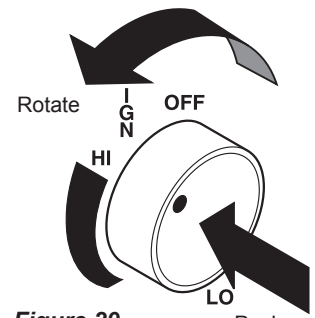

Figure 29 -
10. Push in control knob and turn counterclockwise to the HIGH setting. At this location the control knob will pop out when positioned correctly. The knob can now be positioned at any position between HIGH and LOW. Figures 29 and 30